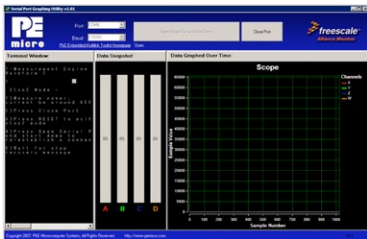

Figure 3: Stop2 mode message
- Press “1” in terminal window to run Demo 1. In Demo 1, S08MM128 enters stop2 mode (see Figure 3), which is lowest power mode.